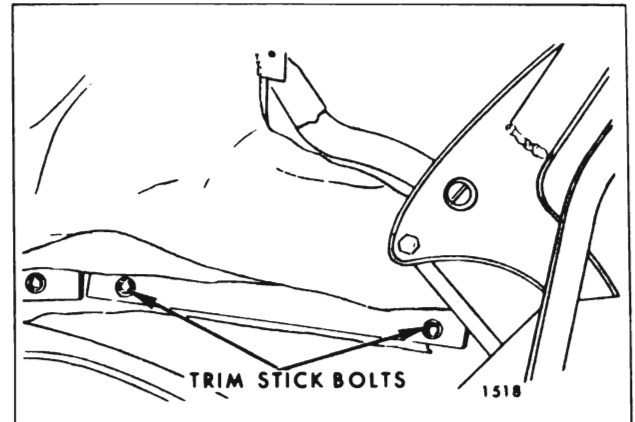

Fig. 13-34 — Rear Quarter Trim Stick
17. At each rear quarter area remove attaching bolts securing rear quarter trim stick assembly to rear quarter inner panel (Fig. 13-34).